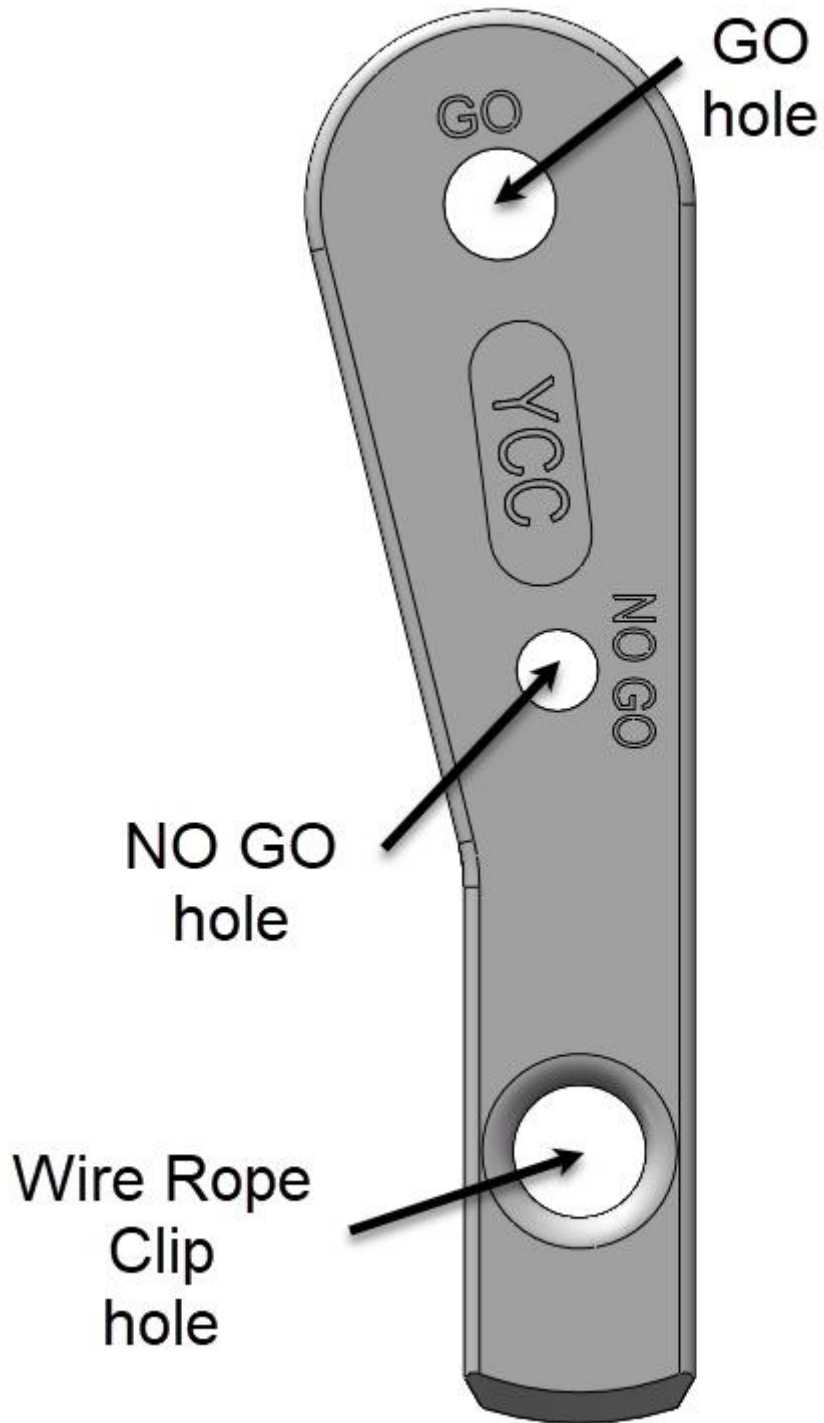

Figure 1
- Verify whether the wedge, socket and wire rope clip match to the wire rope size. In case of the long wedge sockets (G-6419 and G-6429) the correct wire rope size shall be verified using the “GO” and “NO GO” hole (see Figure 1);